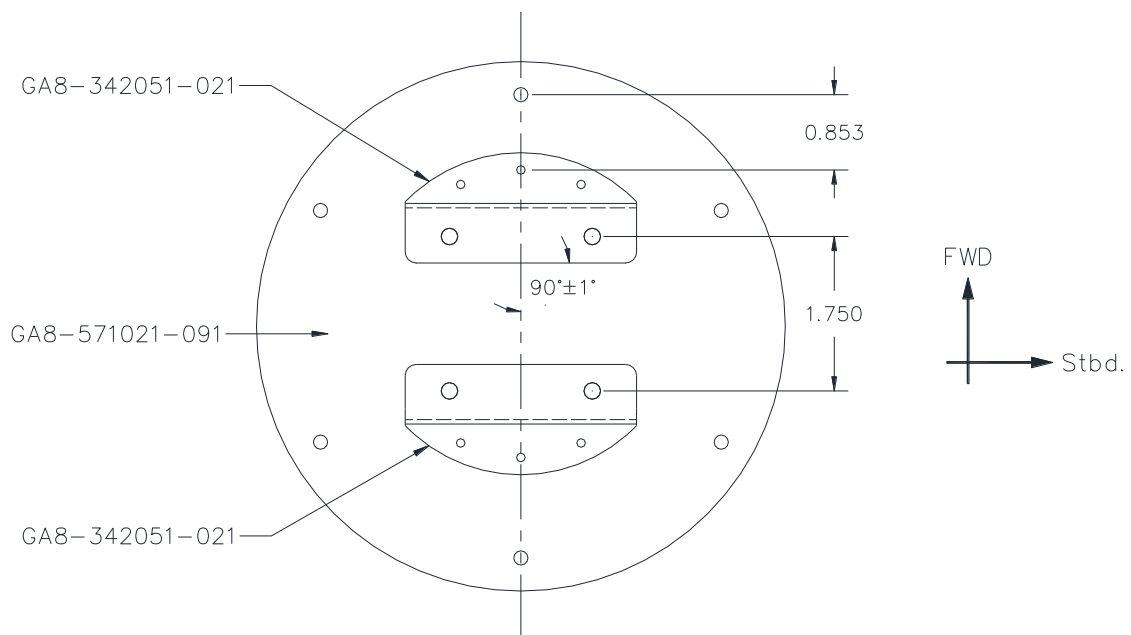
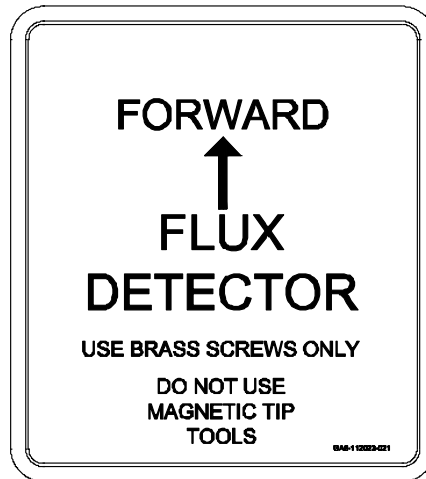

Figure 5: Inspection Panel Assembly
Figure 6: Placard Flux Detector
3.2. Install the two RSM Internal Brackets (GA8-342051-021) to the Inspection Panel (GA8-571021-091) ensuring that the brackets are at $90^{\circ} \pm 1^{\circ}$ to the centre line as shown in Figure 5 below. Use six NAS1097AD3-3 rivets. Ensure that the rivet heads are on the far side. Once installed, paint the rivets to match the existing paint scheme on the wing.
- 3.4. Install the Placard Flux Detector (GA8-112023-021) shown in Figure 6 to the Inspection Panel Assembly such that the placard will be visible externally to the wing when installed. Ensure that the forward arrow points in the same direction as the forward direction noted in Figure 5.